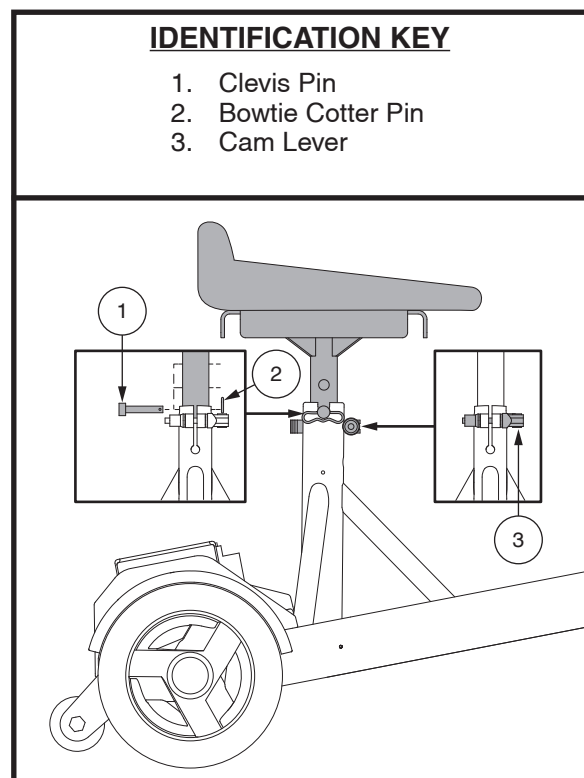

Figure 20. Seat Height Adjustment
The seat can be repositioned to different heights. See figure 20.
1. While holding the seat, align the adjustment holes on the seat and lower seat post slot and insert post. See figure 20.